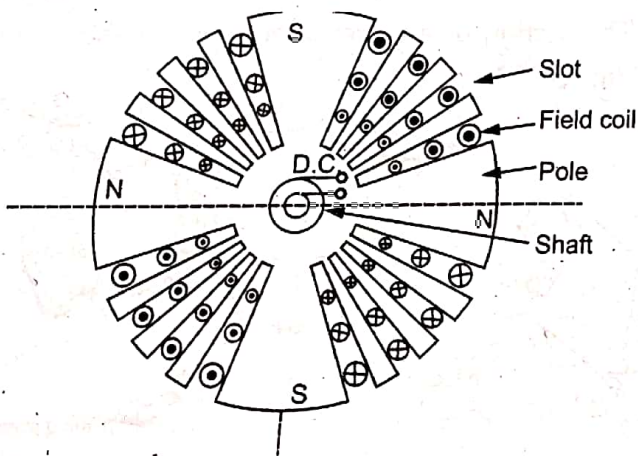

Fig. Q.71.3 Smooth cylindrical rotor
- The Fig. Q.71.3 shows smooth cylindrical type of rotor.